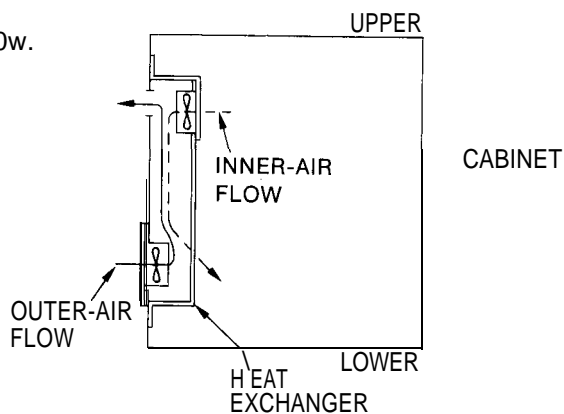

Fig. 4. 4
- (1) The cabinets should be of totally-enclosed construction.
- (2) Seal the cable openings with packing. (See Fig. 4. 5.)
- (3) The door and the back cover should be securely sealed with packing. (See Fig. 4. 6.)
- (4) Special caution is required for the CRT unit as it operates at high voltage and collects dust in the air. The following points should be observed with regard to the pendant box used to install the CRT unit.
- (5) Seal all gaps.
- (6) Oil mist easily settles on the ceiling and enters the cabinets through screw holes. Special precaution, therefore, should be made using oil-proof packing, etc.